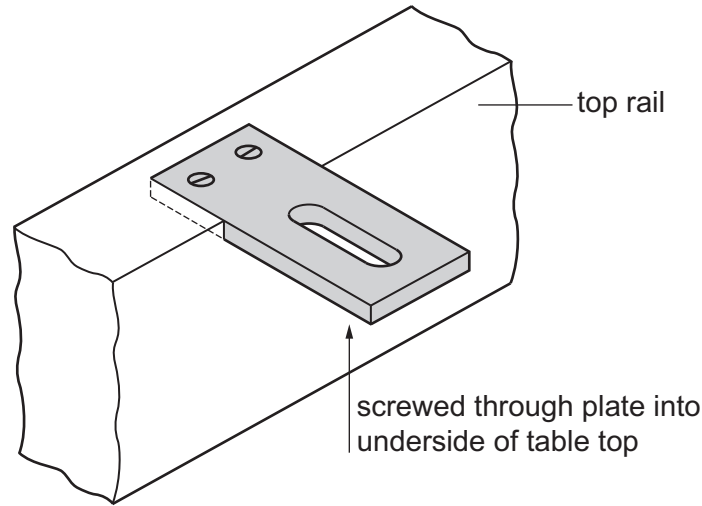

Fig. 11.3
- (c) Fig. 11.3 shows a brass plate screwed into the top rail. The oak table top will be fixed to the top rail by means of a screw inserted from underneath the brass plate. The hole to take the screw is slotted.